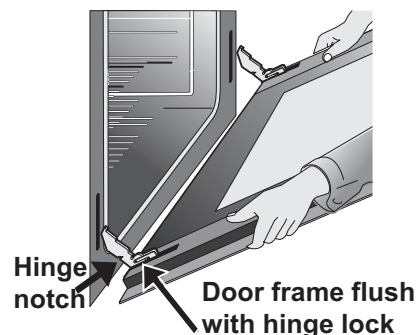

Figure 36: Replacement and location of hinge arm and roller pin
4. Pull the bottom of the door toward you while rotating the top of the door toward the appliance to completely disengage the hinge levers (Figure 36).
1. Firmly grasp both sides of oven door along the door sides. Do not use the oven door handle (Figure 36).
2. Hold the oven door at the same angle as the removal position. Carefully insert the hinge levers into the oven frame until you feel the hinge levers are seated into the hinge notches. The hinge arms must be fully seated into the hinge notches before the oven door can be fully opened. (Figure 36).